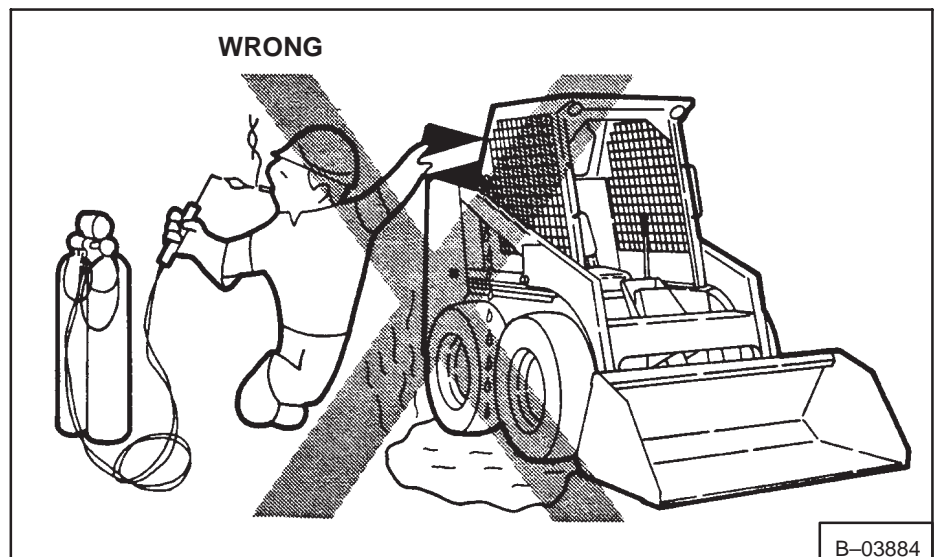

Fig. 1-13 Fuel Fill Warning
3. Add fuel only in an area that has free movement of air and no open flames or sparks. NO SMOKING (Fig. 1-13).